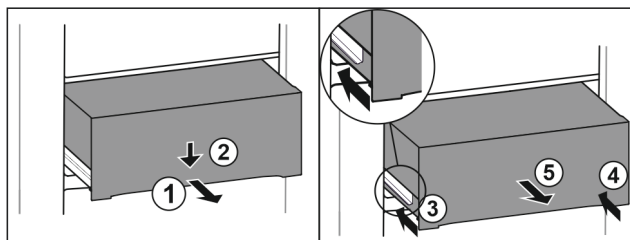

Fig. 203
- Pull out drawer half-way. Fig. 203 (1)
- Push the drawer down at the front. Fig. 203 (2)
- Push the left rail in by about 2 cm. Fig. 203 (3)
- Push the right rail in by about 2 cm. Fig. 203 (4)
- Remove drawer to the front. Fig. 203 (5)